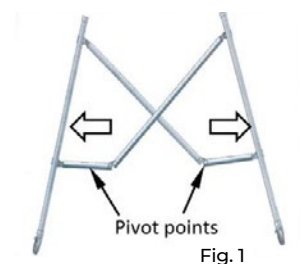

Fig. 1
Step 2: Pull each side of the frames away from each other extending and opening the pivot arm assembly. (See Fig.1)